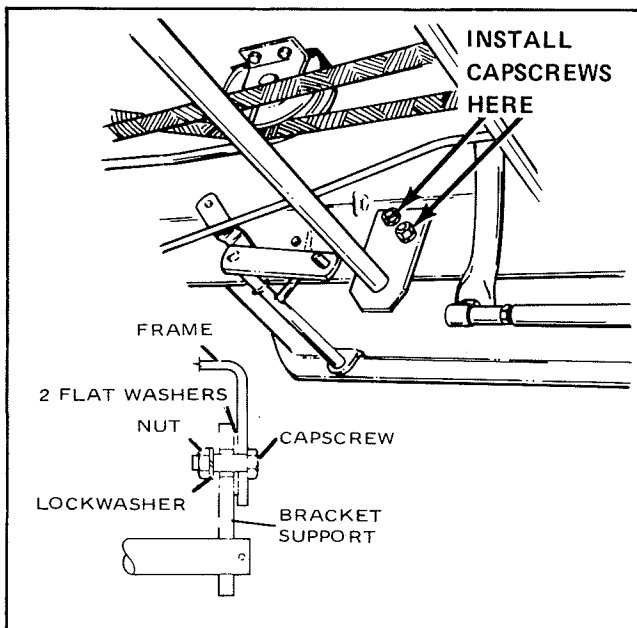

Figure 1.
1. Attach the small support bracket to the inside of the left frame with the 2 long cap-screws, flat washers, lockwashers, and nuts provided (see figure 1). Insert the long cap-screws through the frame, then place two (2) washers on each cap-screw. Next place the support on the cap-screws. Then place a lock-washer and nut on each cap-screw and tighten finger tight.